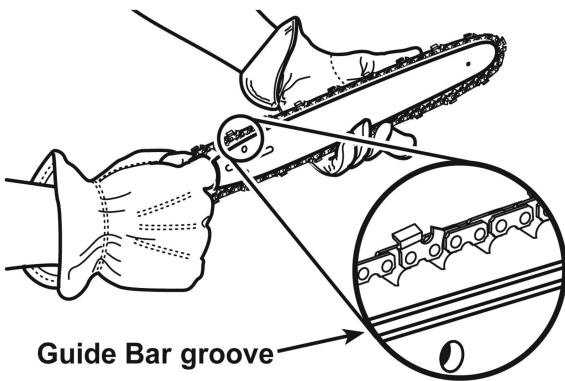

Figure 2: Saw Chain Orientation
6. Replace the Drive Cover, making sure the Chain Tension Pin on the Cover is inserted into the lower hole on the Guide Bar as shown in Figure 2. Replace the Drive Cover Nuts and tighten so that the Cover is snug, but not tight. Tension the Saw Chain following the steps in Checking Saw Chain Tension and Adjusting Saw Chain Tension on page 13.